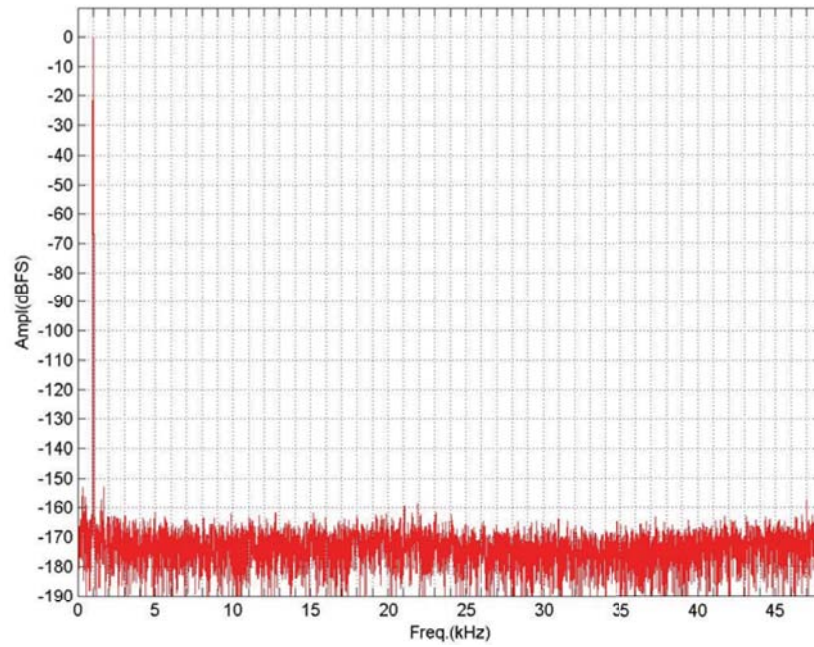

Figure 4. Wideband FFT Plot (0 dBFS 1 kHz Tone, 48 kHz:96 kHz)
- Output sample rate to input sample rate ratio is a whole number. For example, 48 kHz: 96 kHz (1:2) in Figure 4.